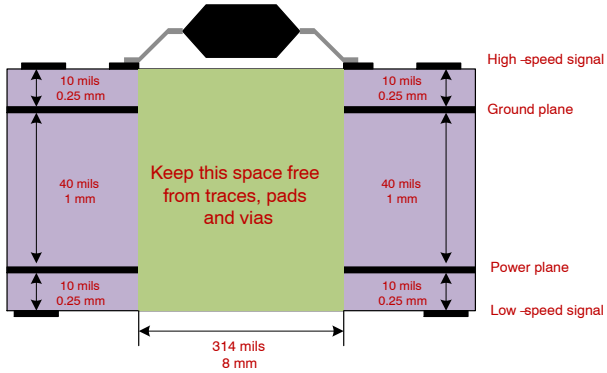

Figure 51. Recommended Layer Stack
- To ensure isolation performance between the primary and secondary side, any PCB traces or copper should be not placed under the driver device as shown in Figure 51. A PCB cutout is recommended to avoid contamination that may impair the isolation performance of NCV51153.